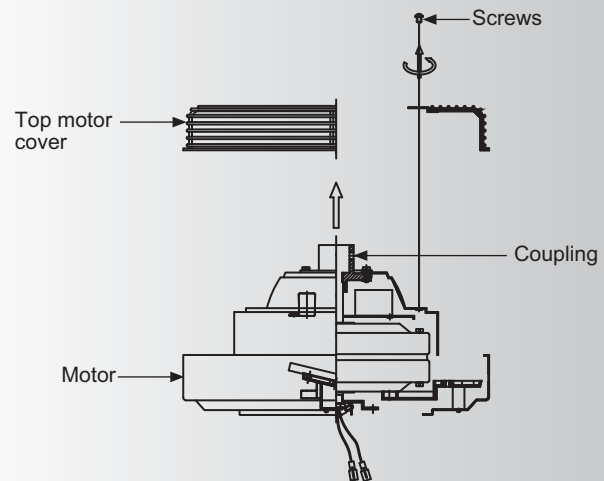

Fig. 5
Step 1. Remove the top motor cover from the top of the motor by removing the six screws from the top motor cover. (Fig. 5)